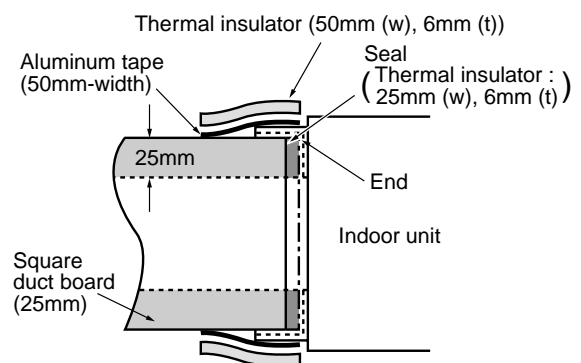

Fig. 9-4-9
- 3) Connect the flange and each type of duct. (Fig. 9-4-9)